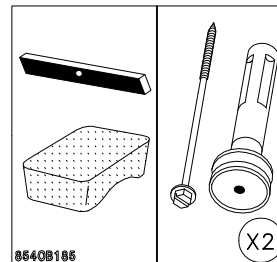

Fig. 5
- Please ensure that these parts have been removed from the machine and keep them in case of next transport (fig. 5).